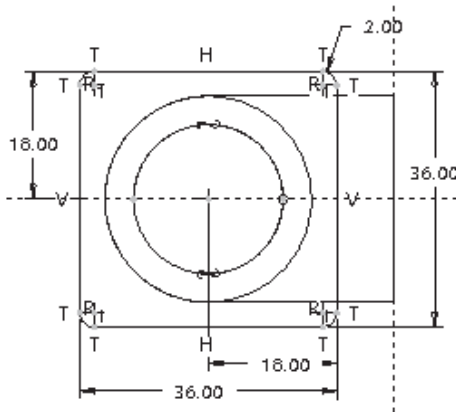

Figure 8-93 Sketch with dimensions and constraints
- d. Create the third and fourth extrude features on the two ends of the swept feature respectively, refer to Figures 8-93 and 8-94.
5. Draw the sketch of the extrude feature and apply constraints and dimensions, as shown in Figure 8-93.